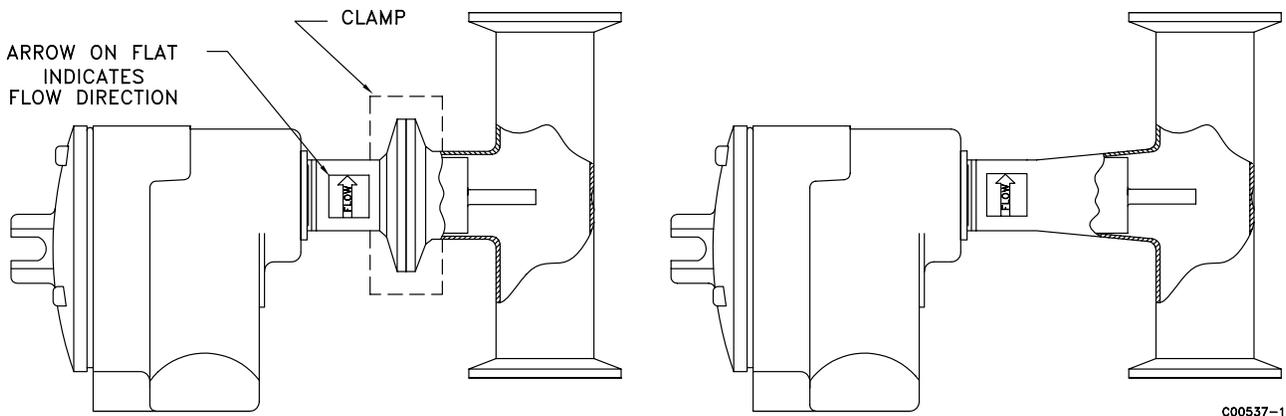

Figure 5 – FLT93C Sanitary Flow Elements (RC and CIP)
The instrument is inserted into the process connection with removable clamp fittings. The Removable Clamp (RC) sanitary assembly contains a removable clamp connection to the flow element. The Clean-In-Place (CIP) sanitary assembly has the flow element directly welded into the process stand pipe. Otherwise these instruments function exactly the same as an FLT93F or FLT93S. See Appendix A for outline dimensions of the instruments. Figure 5 also shows the sanitary assemblies.